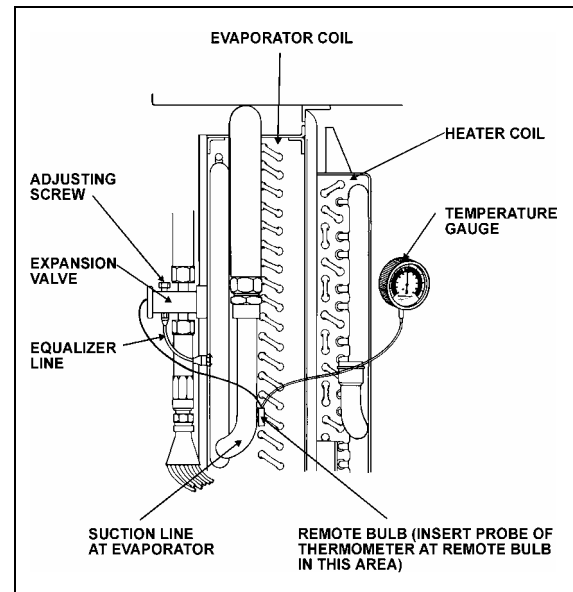

FIGURE 31: SUPERHEAT ADJUST. INSTALLATION 22046
The easiest method of adjusting the superheat is to unscrew completely the main evaporator expansion valve adjusting screw, and screw in 13 turns clockwise for 134A (Fig. 31). If this
3. Install a remote reading thermometer to the evaporator outlet line near the existing remote bulb (Fig. 31).